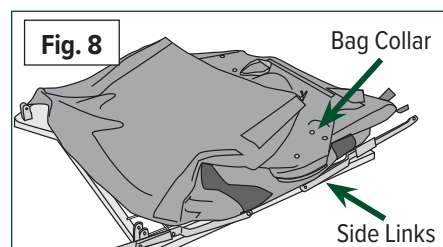

Fig. 8
2. **(Fig. 8)** Flip the Chassis over onto the wheels.
1. **(Fig. 8)** Place the Collector Bag onto the Collector Frame with the round Bag Collar facing the side with the Side Links and opposite the Extender Brackets.